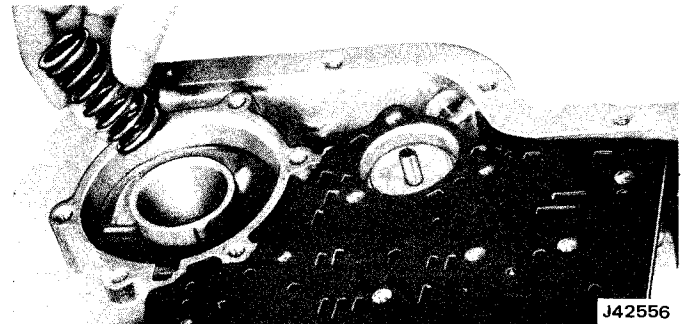

Fig. 2C-159 Rear Accumulator Spring Installation
(1) Install proper length band-apply pin. Refer to Band Adjustment-Rear Band Apply Pin Selection.
(2) Install rear accumulator spring (fig. 2C-159).